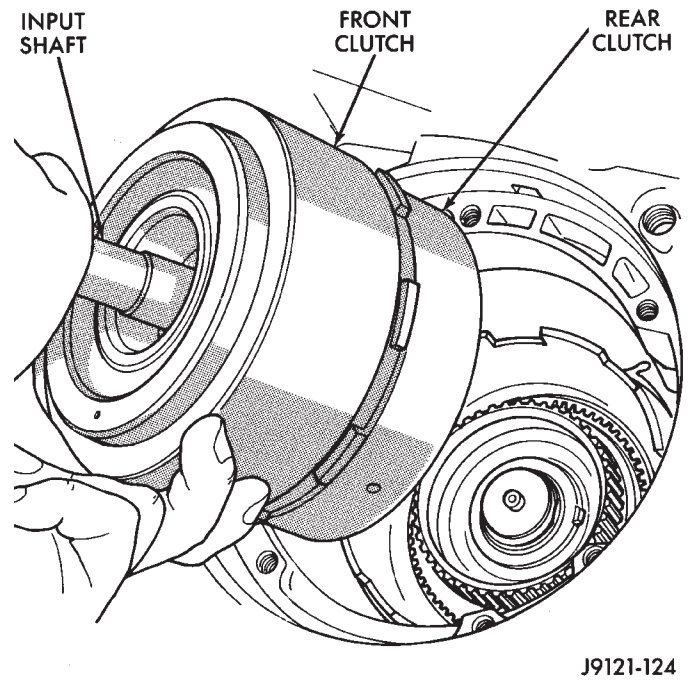

Fig. 128 Installing Front/Rear Clutch Assemblies
(16) Raise front end of transmission upward as far as possible and support case with wood blocks. Front/rear clutch and oil pump assemblies are easier to install if transmission is as close to upright position as possible.
(17) Slide front band into case.
(18) Install front and rear clutch units as assembly (Fig. 128). Align rear clutch with front annulus gear and install assembly in driving shell. **Be sure output shaft thrust washer and thrust plate are not displaced during installation.**
(19) Carefully work assembled clutches back and forth to engage and seat rear clutch discs on front annulus gear. Also be sure front clutch drive lugs are fully engaged in slots of driving shell after installation.